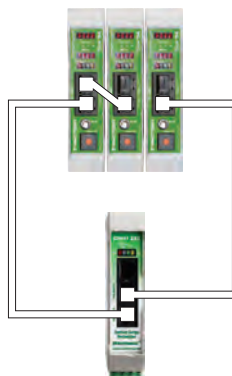

Figure 3.8 – Wiring the Click 104 Module
- 2 Send detection data to the data bus (bus 1). Connect a Click 222 to the Click 104 by connecting jumper cables from the RJ-11 jacks on the faceplate of the Click 222 to the RJ-11 jacks on the faceplate of the Click 104 (see Figure 3.8).
The front panel of the device features a push-button and three banks of LEDs for on-device configuration and monitoring. The first bank of LEDs, labeled Channel, displays the state of the contact closure outputs (see Figure 3.8).
Once the Click 104/112/114 devices are installed, make sure that each detector rack channel is properly mapped to the correct traffic phase in the traffic controller. The general NEMA standard for 8-phase numbering is presented in Figure 3.8. Many intersections will not have eight phases, and in some cases they may not even follow the NEMA convention. Check the plans in the traffic signal cabinet to verify how the phases are numbered at each intersection.
Phases 1, 2, 5 and 6 are often used for the “main” street, and phases 3, 4, 7 and 8 are often used for the “side” street as shown in Figure 3.8.